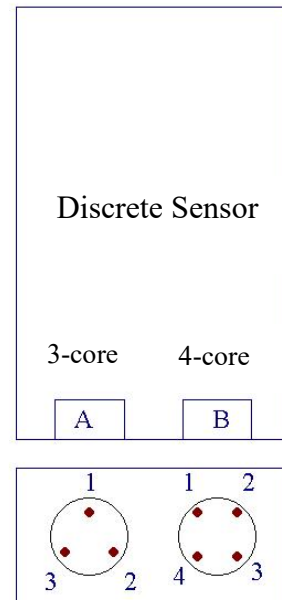

Fig. 10-2
10.2 Use ohmmeter to measure the discrete normal sensor (Fig. 10-2)
- a. Three stainless steel tubes shall be connected with each other and be connected with pin (3) of the 3-core terminal.
- b. The resistance between three pin (1) and pin (2) is about 8——15K Ω .
- c. The resistance between 4-core terminal pin (1) and pin (2) of the sensor is about several hundreds of Ω .